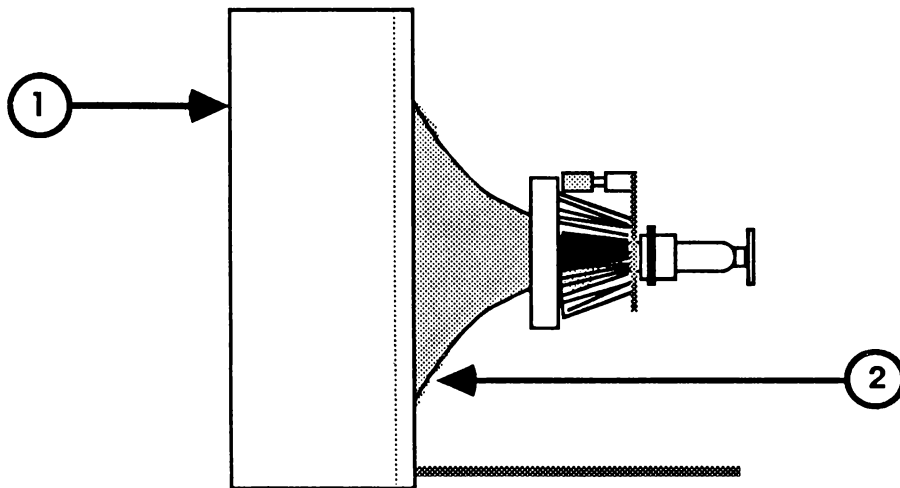

FIGURE 12
6. Stand the monitor upright and support it with both hands (Figure 12, #1 and #2).